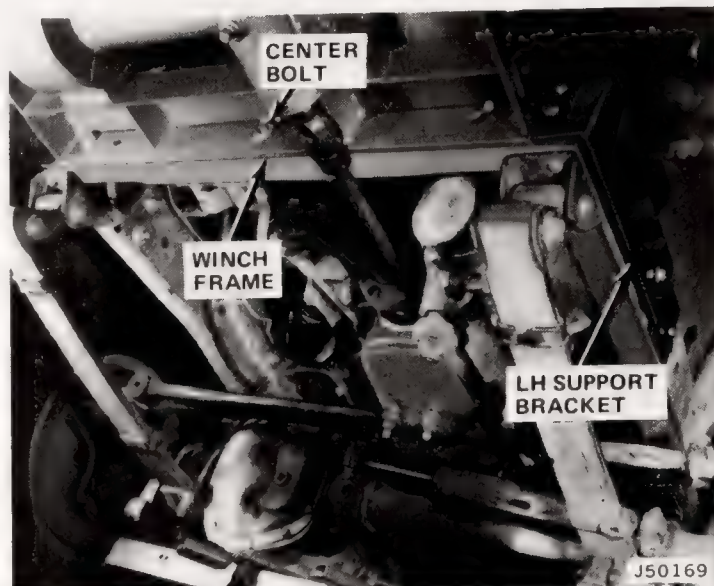

Fig. 5-12 Front and LH Mounting—Cherokee-Truck
(3) Align holes at rear of winch frame with holes in vehicle frame crossmember. Install 7/16-inch diameter by 3-1/2-inch long bolt through center hole of winch frame and crossmember (fig. 5-12). Attach backup plate, adding a flat washer, lockwasher, and nut. Tighten bolt finger-tight. Install 5/8-inch diameter by 1-1/2-inch long bolts on each side of center bolt. Add flat washers, lockwashers, and nuts and tighten finger-tight.
with bolts, lockwashers, and nuts previously removed from LH support bumper brace (fig. 5-12).